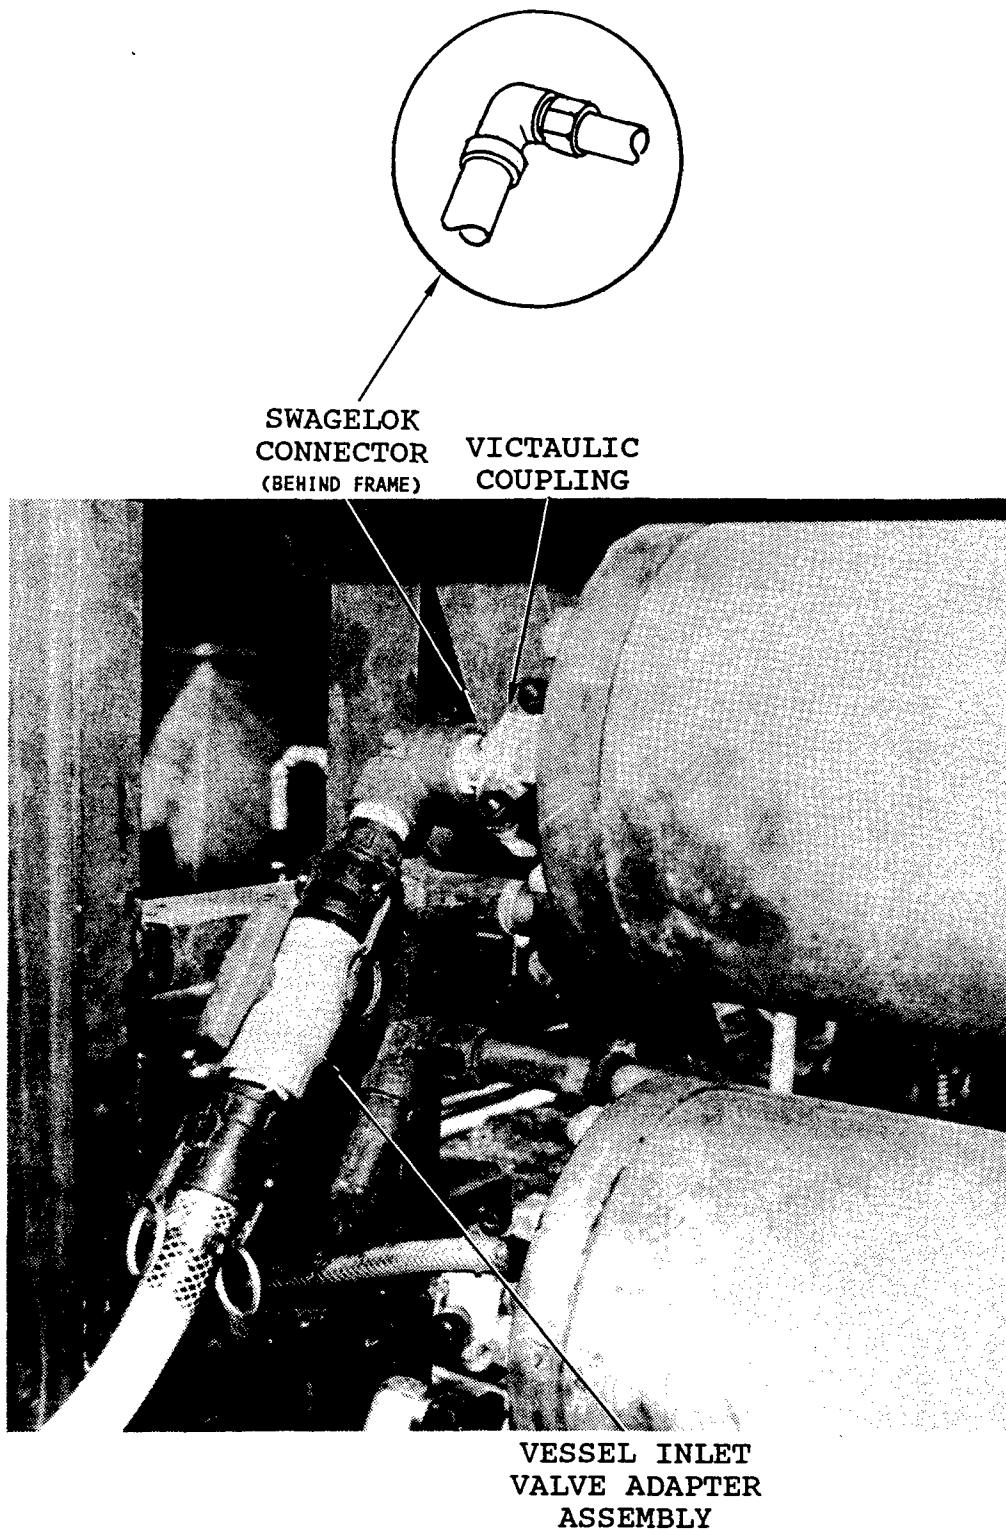

Figure 2-9. Valve and Victaulic Coupling, Top RO Vessel.
- f. Attach the victaulic half of the valve adapter assembly with the elbow, to the top RO vessel as depicted in figure 2-9.
- c. Disconnect the 1 inch valve at the connection between the valve and the tank, and attach it to the inlet at the top RO vessel as shown in figure 2-9. Open the valve.